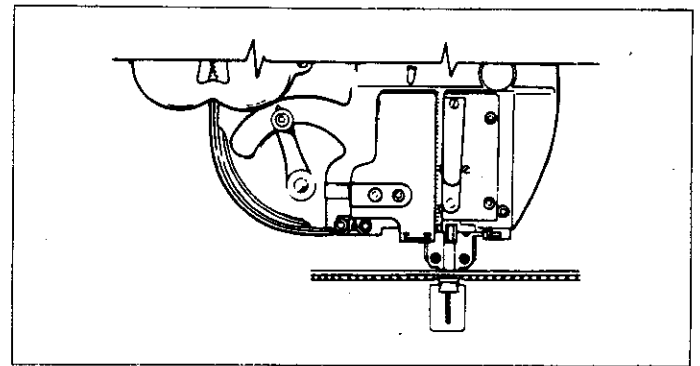
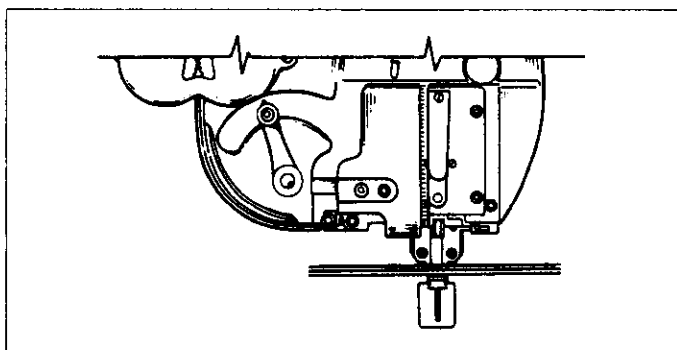

Figure 4
Figure 3
3. Place the material to be stitched over the clincher. If the work material is metal and is not compressible, adjust the clincher upward until the material is held firmly between the clincher and the formers. See figure 3. If the work material is not metal and is compressible, adjust clincher upward until the formers and clincher make a slight depression in the work material. See figure 4. Raise formers and remove hand crank.